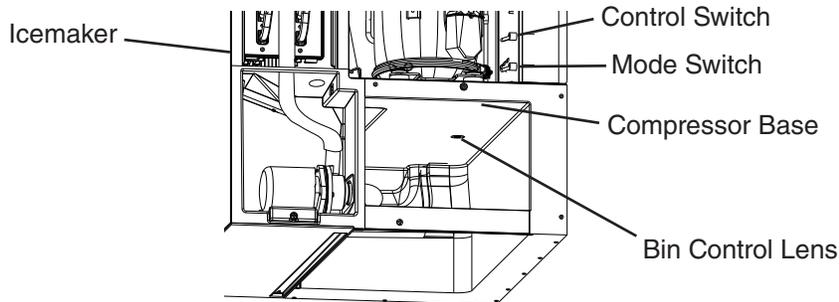

Fig. 17
- 6) 1 min. fill cycle begins. Place an object 5" to 7" (127 to 178 mm) away from the bin control lens. See Fig. 17. 15 sec. later, the icemaker shuts down. Remove the object from the bin control lens. 30 sec. later, the icemaker restarts. For bin control shutdown times per cycle, see the table below.